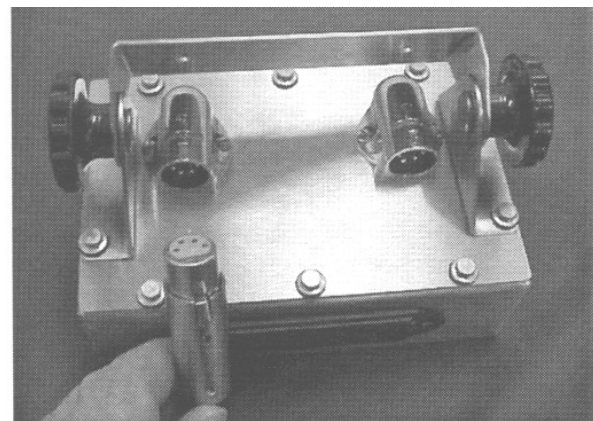

Figure 3: Leads from the load cells plug into outlets on the back of the scale unit.
6. Connect the two (2) loadcell cords from the loadcell assemblies to the indicator. Each connector accepts either plug. See Figure 3.